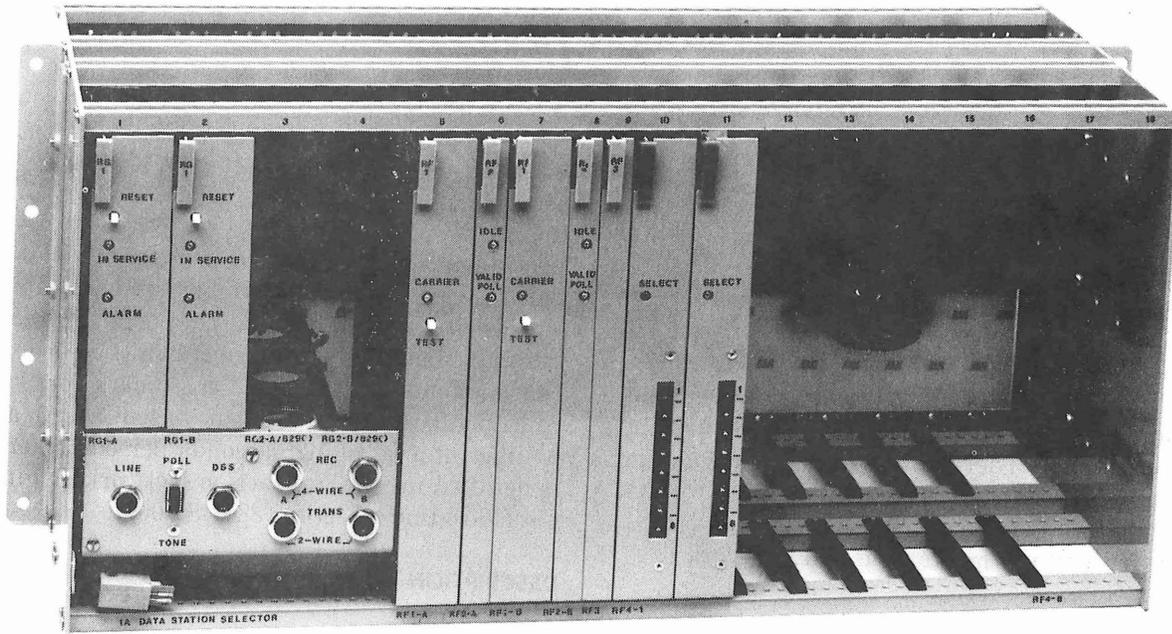
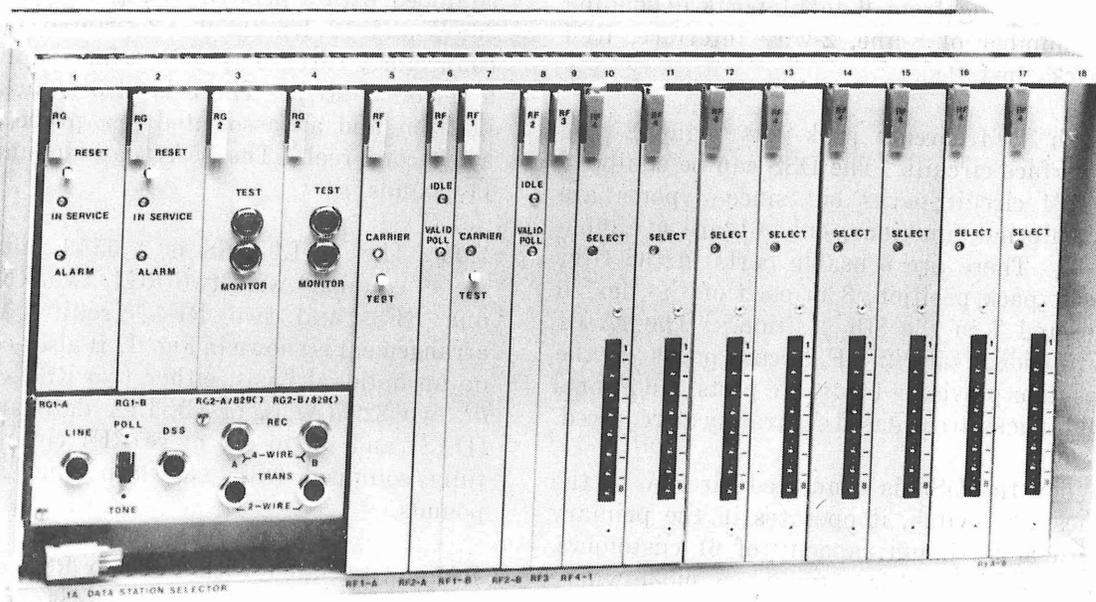

Fig. 1—1A, L1 Data Station Selector
Fig. 2—Fully Equipped 1A Type Data Station Selector
1.06 The 1A-L1 DSS is a 55A1 data mounting equipped with two RG1, two RF1, two RF2, one RF3, and two RF4 circuit packs. This arrangement is shown in Fig. 1. It also accommodates, on an optional basis, either two RG2 circuit packs or two 829 (A, B, or C), L1A data auxiliary sets (DAS) and up to six more RF4 circuit packs. A fully equipped DSS, shown in Fig. 2, weighs 39 pounds.